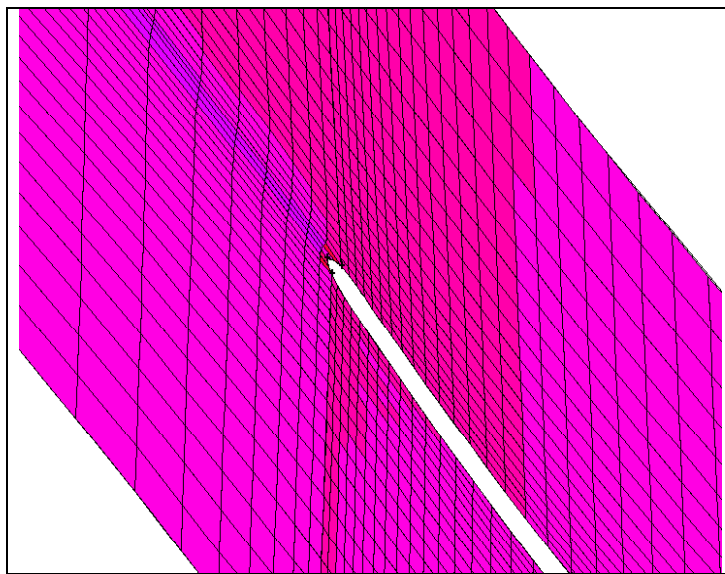

Figure 9-12: Quadrilateral mesh elements near blade tip—EquiAngle Skew = 0–1
Figure 9-12 displays an enlarged view of the quadrilateral face mesh elements near the blade tip on the casing surface for this example. In this case, the mesh elements are colored to represent the value of the EquiAngle Skew parameter.
*(NOTE: To view the 2-D face elements shown in Figure 9-12, select the **Display Type: 2D Element** option on the **Examine Mesh** form, and specify the display of quadrilateral () elements.)*